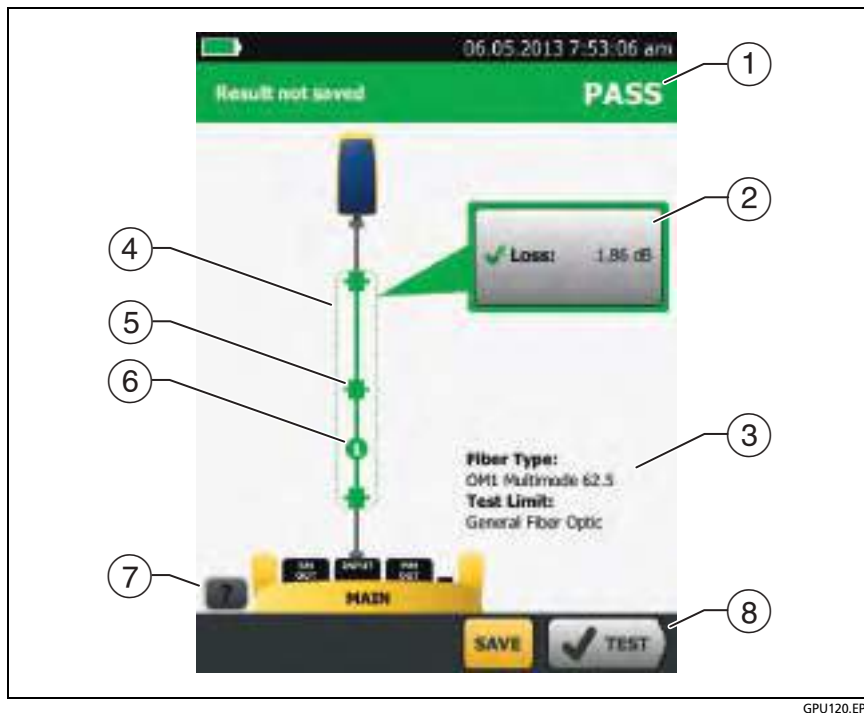

Figure 69. Result for Far End Source Mode
Figure 69 shows an example of Autotest results for Far End Source mode.
- ③ The settings the tester used for the test.
- ④ The dashed lines are around the connectors and fiber that are included in the loss and length results. Gray connectors and fibers are not included because you used them to set the reference.
- ⑤ Connector icons show the number you entered for the **TOTAL CONNECTIONS** setting on the **No. of Connectors/Splices** screen (Figure 58 on page 154). For Figure 69, the **TOTAL CONNECTIONS** setting is 1.
- ⑥ The round icon shows the number of splices entered for the **SPLICES** setting on the **No. of Connectors/Splices** screen.
- ⑦ To see help for the screen, tap .
- ⑧ When more than one button shows at the bottom of the screen, the tester highlights one in yellow to recommend which one to tap. See "Buttons to Do Tests and Save Results" on page 22.